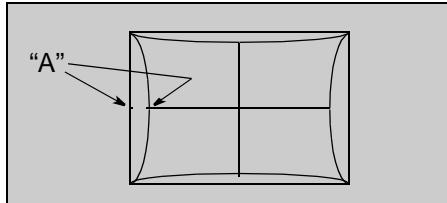

Figure 33. Pincushion Adjustment
4. Adjust DAC PCC (Pincushion) by pressing VOL right/left and confirm that size is 17 ± 5 mm at "A" (See Figure 33)